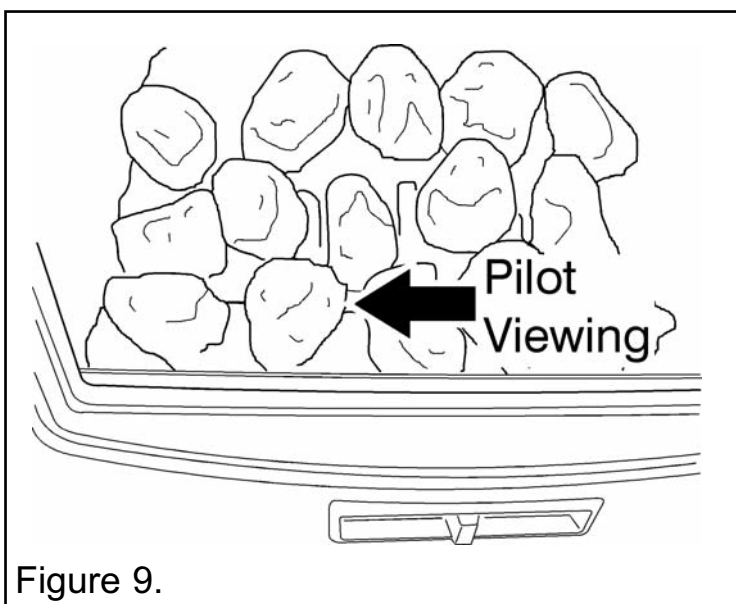

Figure 9.
- Turn the control knob clockwise to the 'Off' position. Repeat this operation until a flame appears at the pilot. The pilot can be seen by looking through the gap in the fuel effect (See figure 9). There may be a delay before the pilot lights due to air being purged from the system. When a flame appears at the pilot keep the control knob depressed and hold the pilot ignition position for five